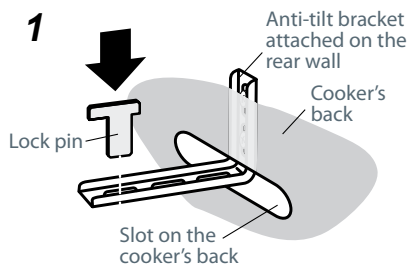

Fig. 18c Fitting the lock pin through the bracket
- Fit the lock pin through the bracket, as shown (Fig.18c).